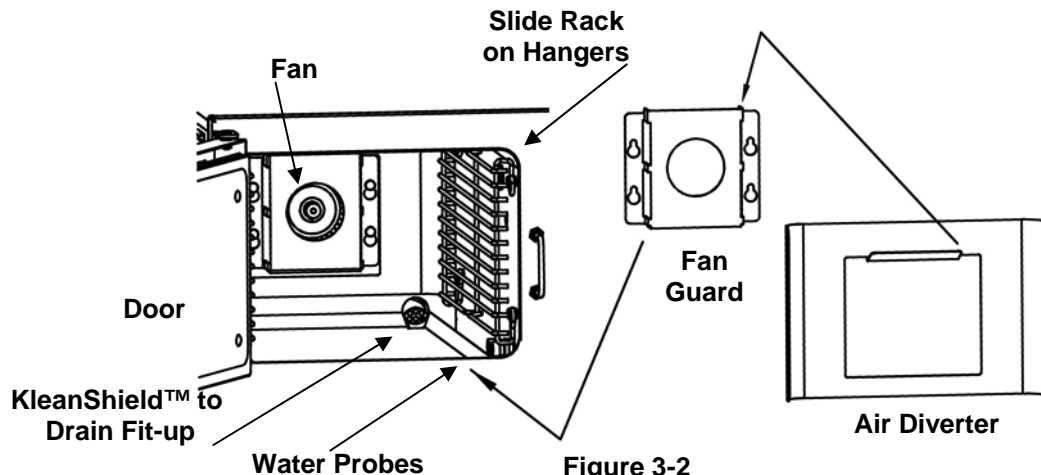

Figure 3-2
- c. Pull it down so that the narrow ends of the slots are pulled tight over the mounts. See Figure 3-2.
1. See Figure 3-2. Each rack has four loops: two at the top and two at the bottom. Hold the slide rack so the ends of the hanger loops are towards the cooking compartment wall.
2. Inspect the door gasket assembly, water level sensors, KleanShield™, drain screen, fan guard, air diverter, and slide racks for proper installation and cleanliness. See Figure 3-2.